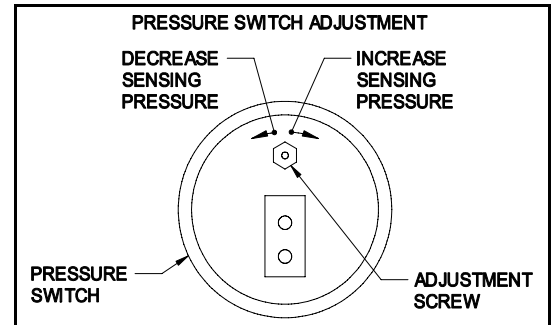

Figure 6
3. Rotate the adjustment screw an additional  $\frac{1}{4}$  turn counterclockwise to insure proper switch setting. (See Figure 6)